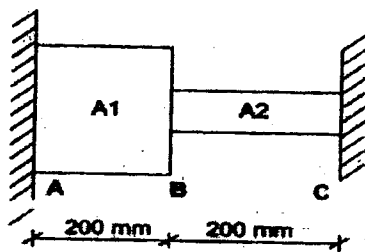

Figure 12
- Q-5** a Define any two - Oscillation, Amplitude, Time period and Frequency. (02)
- b A compound bar ABC is rigidly fixed with wall at two ends as shown in Figure 12. There is (06)